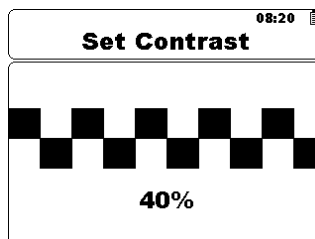

Figure 4.13: Contrast menu
- › Connect device under test to the instrument (see figure 4.13).